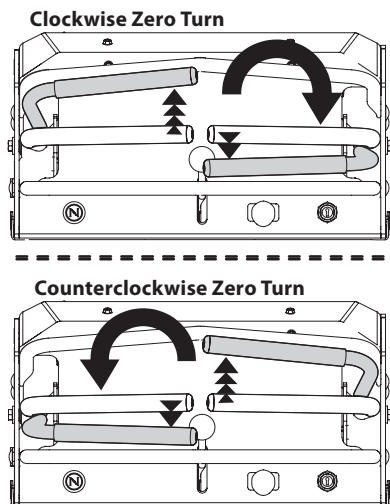

Fig. 14
- To turn clockwise, move the left drive control lever forward while simultaneously moving the right drive control lever rearward (Fig. 14).
- To turn counterclockwise, move the right drive control lever forward while simultaneously moving the left drive control lever rearward (Fig. 14).